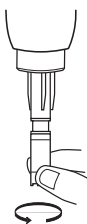

Figure 8
6. Screw the new membrane cap onto the probe until the membrane cap is finger tight (see **Figure 8**). Wipe off any displaced electrolyte solution on the probe.